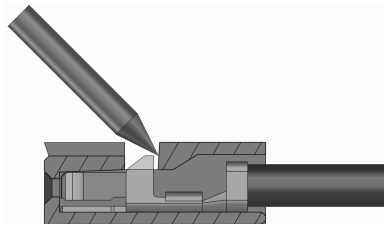

Figure 14
1. Use small tool with pointed tip to remove pink and tan crimped terminal/wire assemblies from 26 pin connector positions 26-11 and 26-13, as shown in Figure 14.
2. Lift up plastic lance, as shown in Figure 14, slowly pull pink and tan crimped terminal/wire assemblies out of connector.